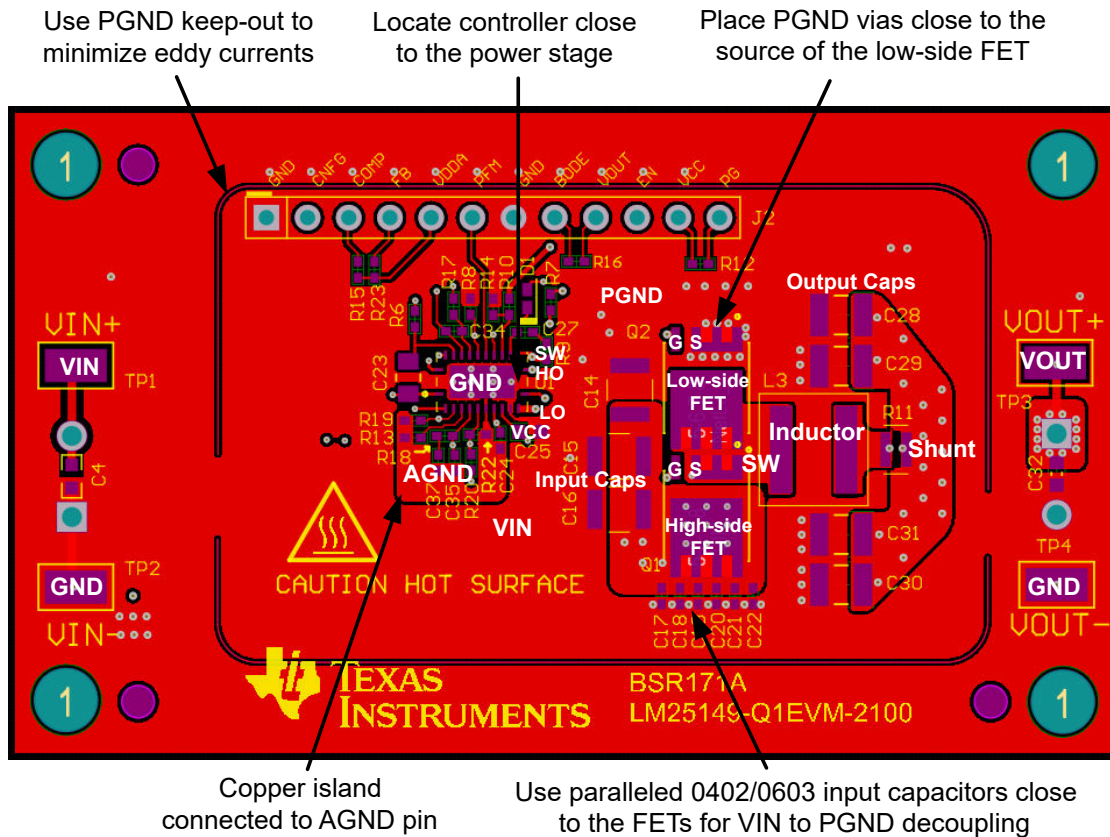

图 9-36. PCB Top Layer – High Density, Single-sided Design
图 9-36 shows a single-sided layout of a synchronous buck regulator with discrete power MOSFETs, Q1 and Q2, in SON 5-mm × 6-mm case size. The power stage is surrounded by a GND pad geometry to connect an EMI shield if needed. The design uses layer 2 of the PCB as a power-loop return path directly underneath the top layer to create a low-area switching power loop of approximately 2 mm². This loop area, and hence parasitic inductance, must be as small as possible to minimize EMI as well as switch-node voltage overshoot and ringing.
- Make the ground connections to the LM25148 controller as shown in 图 9-36. Create a power ground directly connected to all high-power components and an analog ground plane for sensitive analog components. The analog ground plane for AGND and power ground plane for PGND must be connected at a single point directly under the IC – at the die attach pad (DAP).